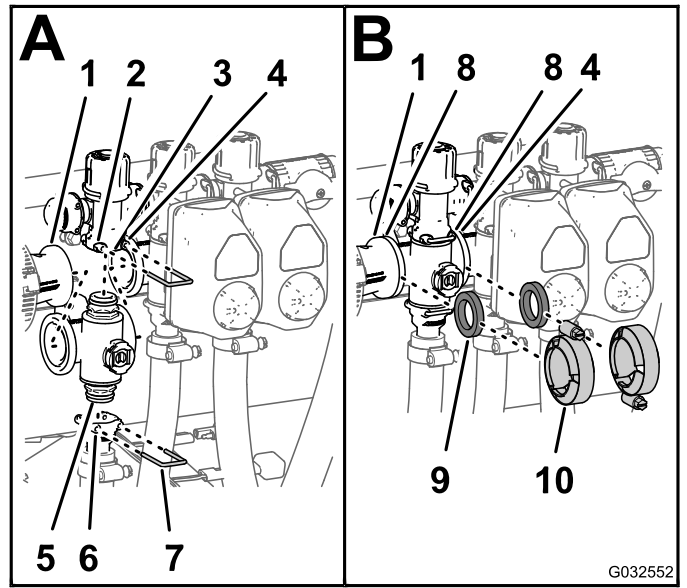

Figure 107
1. Insert the upper end-cap fitting of the manifold valve into the bypass fitting (A of Figure 107).
2. Secure the end-cap fitting to the bypass fitting by inserting a retainer into the socket of the bypass fitting (A of Figure 107).
3. Assemble the outlet fitting onto the lower end-cap fitting of the manifold valve (A of Figure 107).
4. Secure the end-cap fitting to the outlet fitting by inserting a retainer into the socket of the outlet fitting (A of Figure 107).
5. Align a gasket between the flanges of the reducer coupling and the section-valve manifold (B of Figure 107).
6. Assemble the reducer coupling, gasket, and section-valve manifold with a clamp tightened hand tight (B of Figure 107).
7. If installing the 2 left section valves, align a gasket between the flanges of the 2 adjacent section-valve manifolds (B of Figure 107).
8. Assemble the 2 adjacent section-valve manifolds and gasket with a clamp tightened hand tight (B of Figure 107).